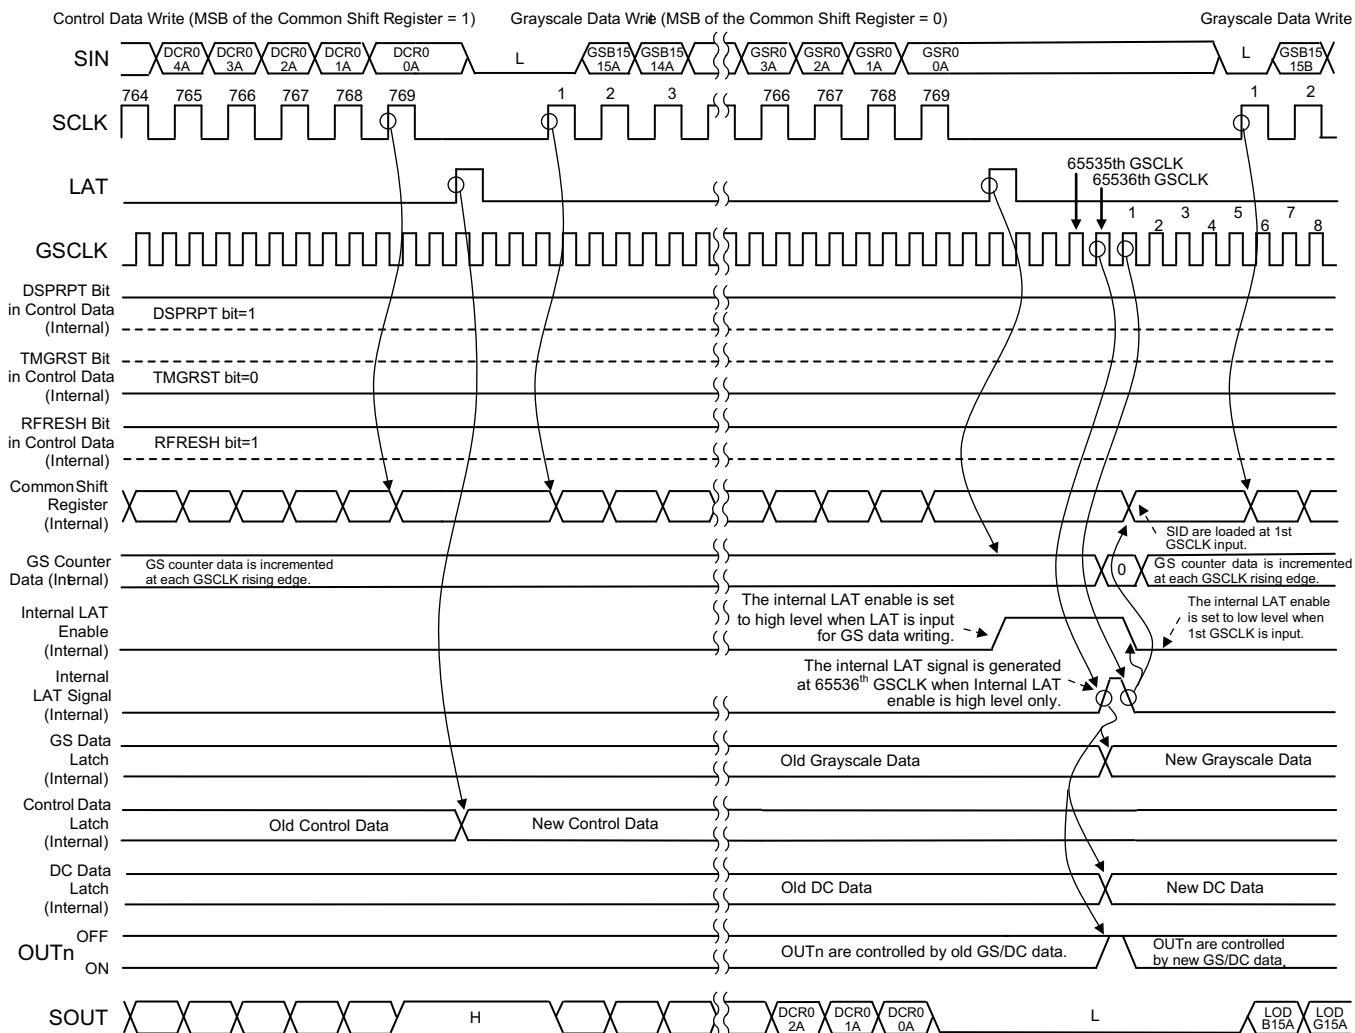
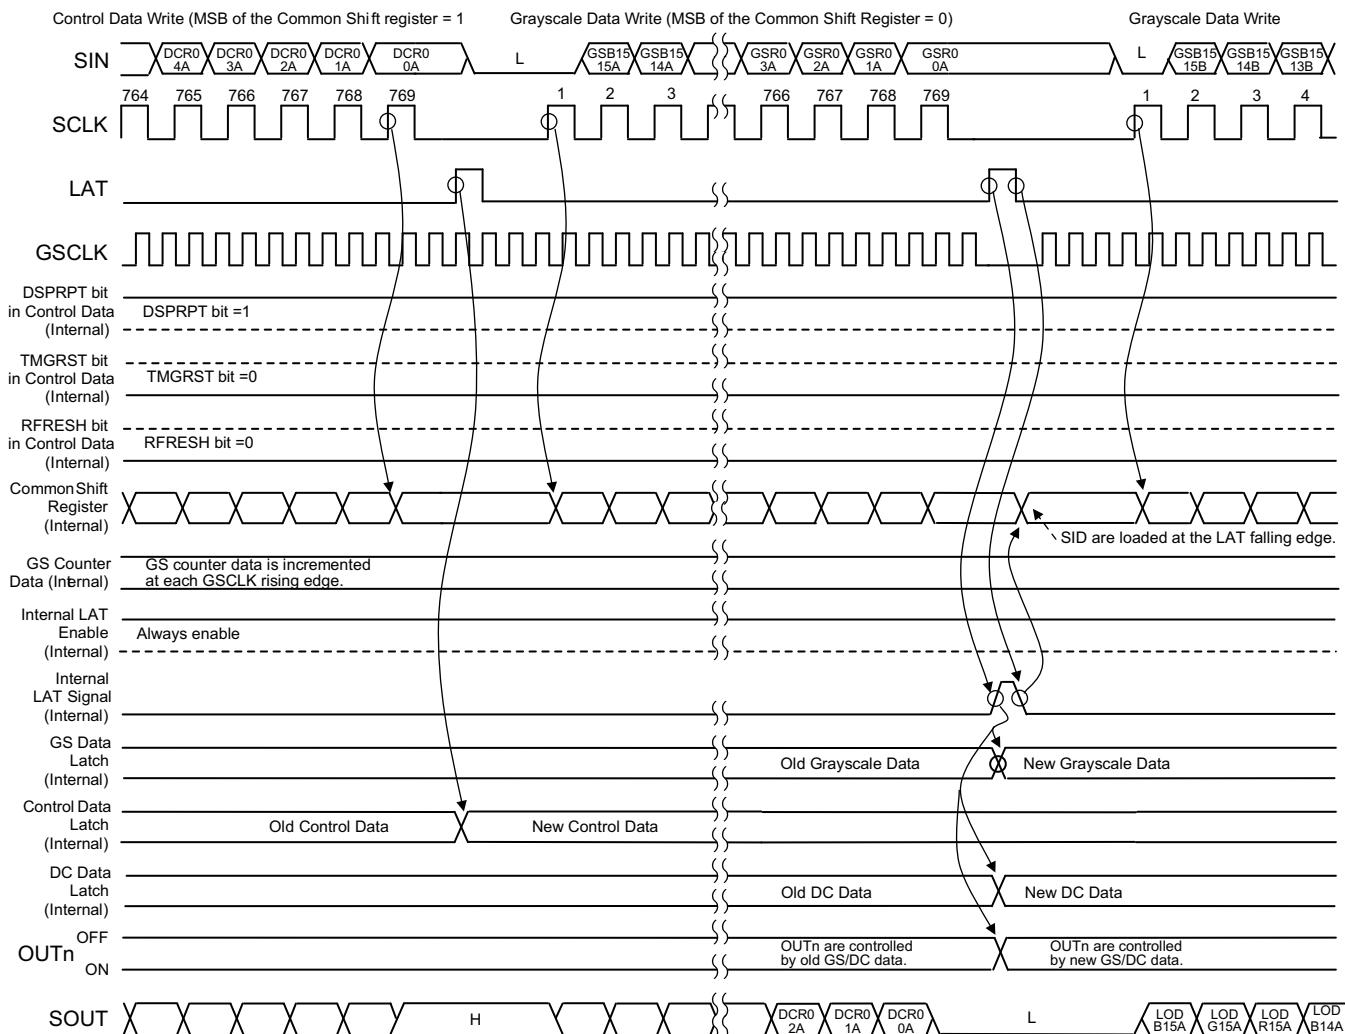

Figure 31. Auto Data Refresh Function 1 (DSPrpt = 1, TMGrst = 0, and RFresh = 1)
Figure 32. Auto Data Refresh Function 2 (DSPRPT = 1, TMGRST = 0, and RFRESH = 0)
This function delays updating the grayscale (GS) and dot correction (DC) data until the end of one entire display period. If both DC data and GS data are written by the end of an entire display period, the input DC data are held in the control data latch and the GS data are held in the common shift register. Both DC and GS data are copied to the 336-bit DC data latch and 768-bit GS data latch at the end of an entire display period. The data latches are used for the next display period. GS data are directly copied from the common shift register to the GS data latch. Therefore, GS data must be written after the DC data are written. Furthermore, the GS data in the common shift register must not be changed until all data are copied to the GS data latch. Figure 31 and Figure 32 show timing diagrams for this function.